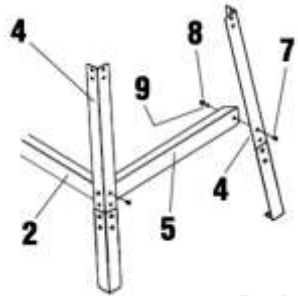

Fig. 3
9. Position a bottom short brace (#5) with each of its ends aligned with the bottom long braces (Fig. 3).
10. Insert 2 carriage bolts through the aligned mounting holes of the 2 legs and bottom short brace and tighten them partially (Fig. 3).